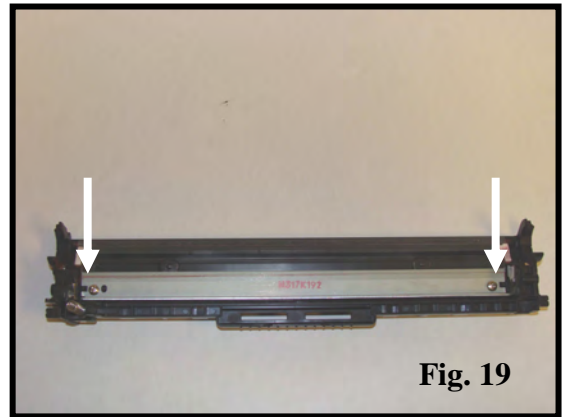

Fig. 19
19. Remove two screws and the wiper blade from the waste section (Fig. 19).